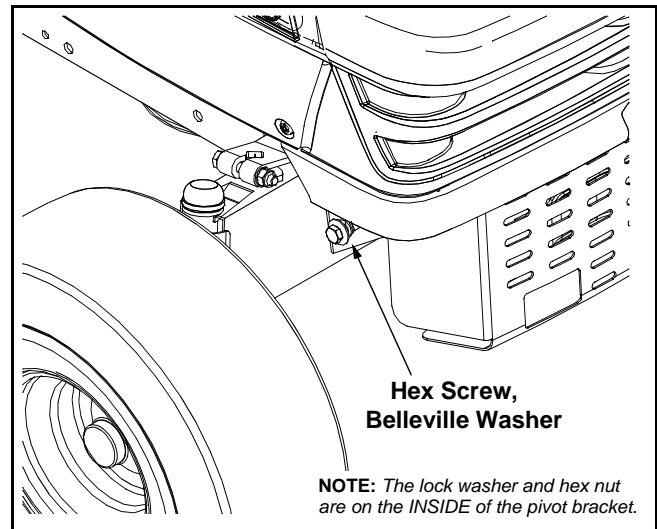

Figure 4
1. Fasten the provided hex screws, belleville washers, lock washers and lock nuts to the tractor's front pivot bracket as illustrated in Figure 4 on both the left side and the right side. Do NOT tighten the hardware at this point in the assembly.